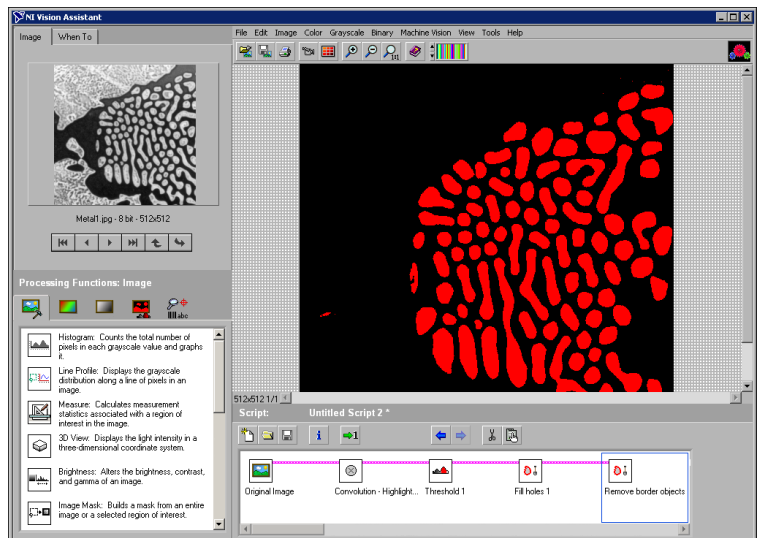

Figure 3-4. Modifying Particles with Morphological Functions
5. Select **Remove border objects** to remove any objects that touch the border of the image, as shown in Figure 3-4.